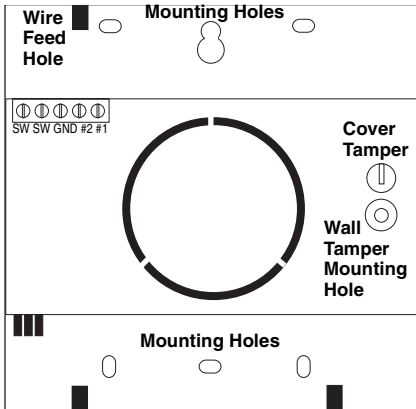

Figure 1. Siren Components and Mounting Holes
- Figure 1 shows siren with cover removed.